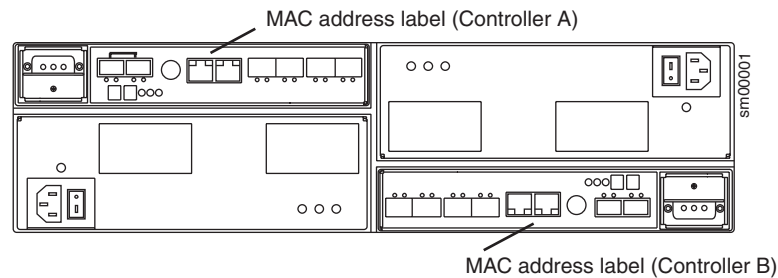

Figure 7. Location of MAC address on DS4700 RAID controllers
**Note:** You can access the controllers from the back of the DS4700 chassis as shown in Figure 7.